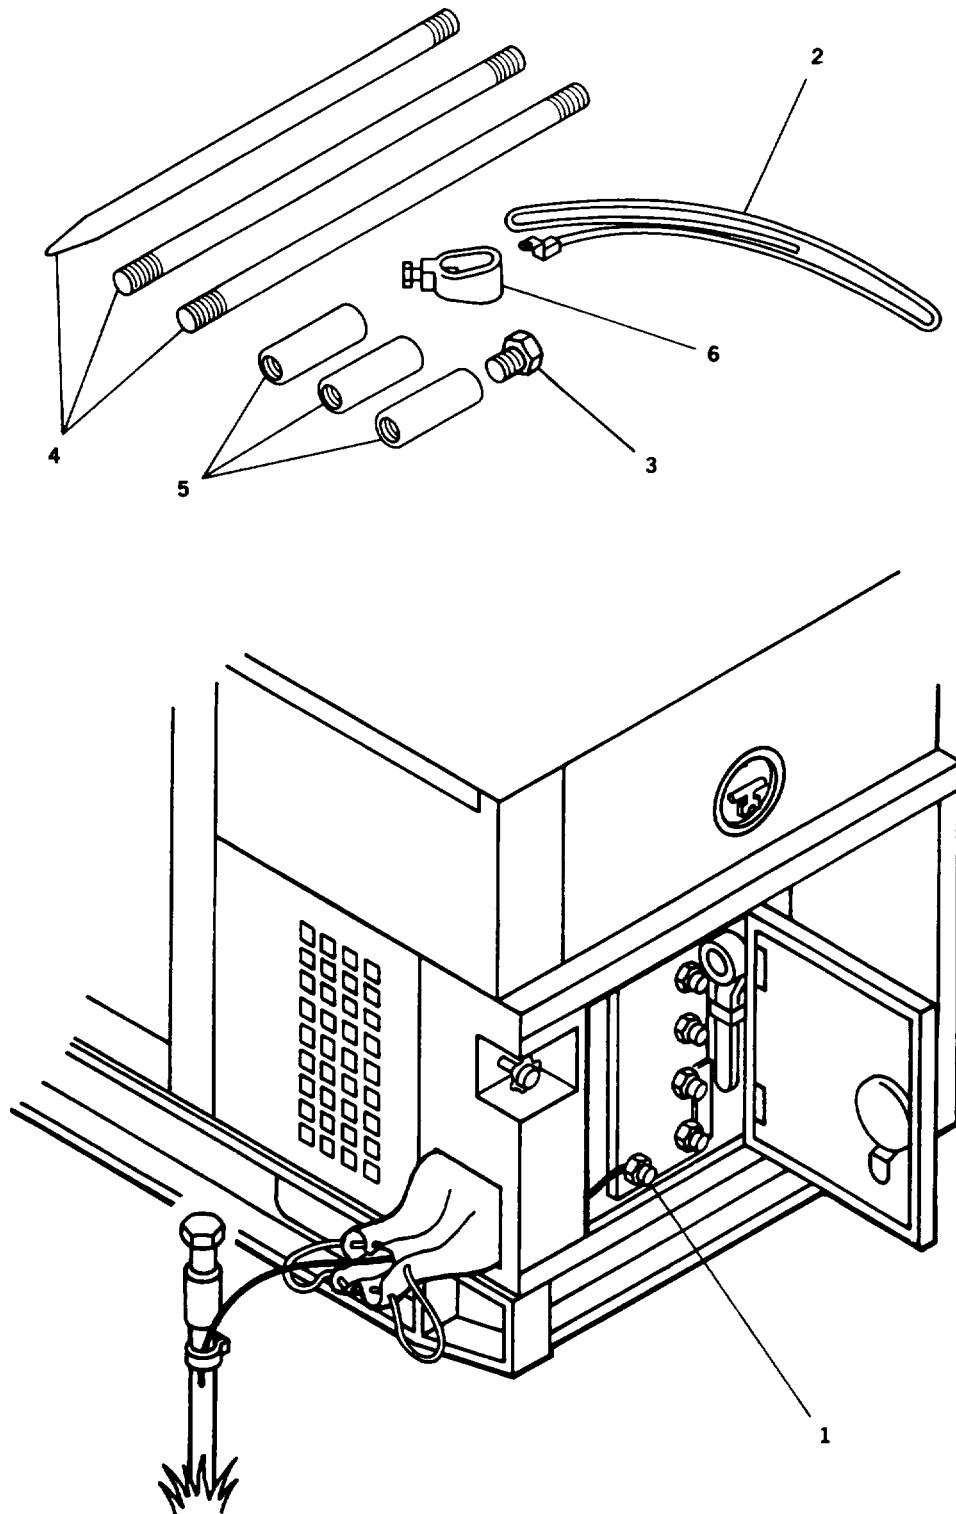

FIGURE 2-4. Grounding Connections
- a. Insert ground cable (2, FIGURE 2-4) through slot on load output terminal board terminal marked GND (1). Tighten terminal nut.
- b. Connect coupling (5) to ground rod (4) and screw driving stud (3) CAUTION into coupling (5). Make sure that driving stud (3) seats on ground rod (4).